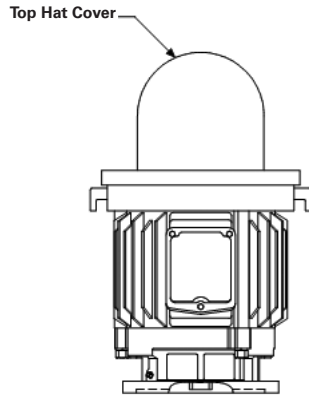

Figure 1: Motor Top Hat Cover Location
1. Disassemble the top hat cover from the motor by removing the top hat cover bolts. Refer to Figure 1. Carefully lift the cover from the motor.